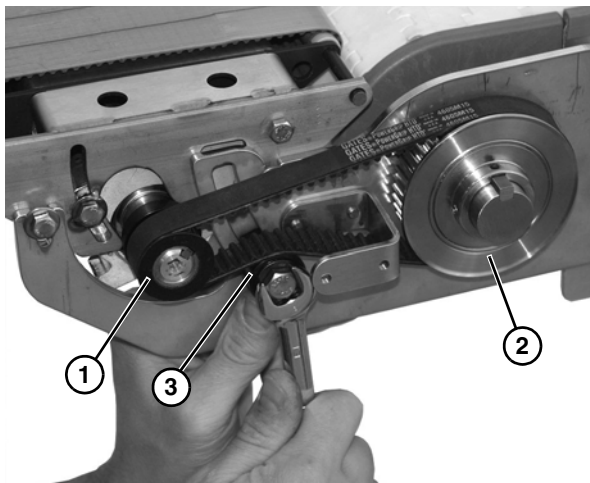

Figure 18
16. Using a straight edge, align driven pulley (Figure 18, item 1) with drive pulley (Figure 18, item 2) and tensioner (Figure 18, item 3), and tighten drive and driven pulley set screws.